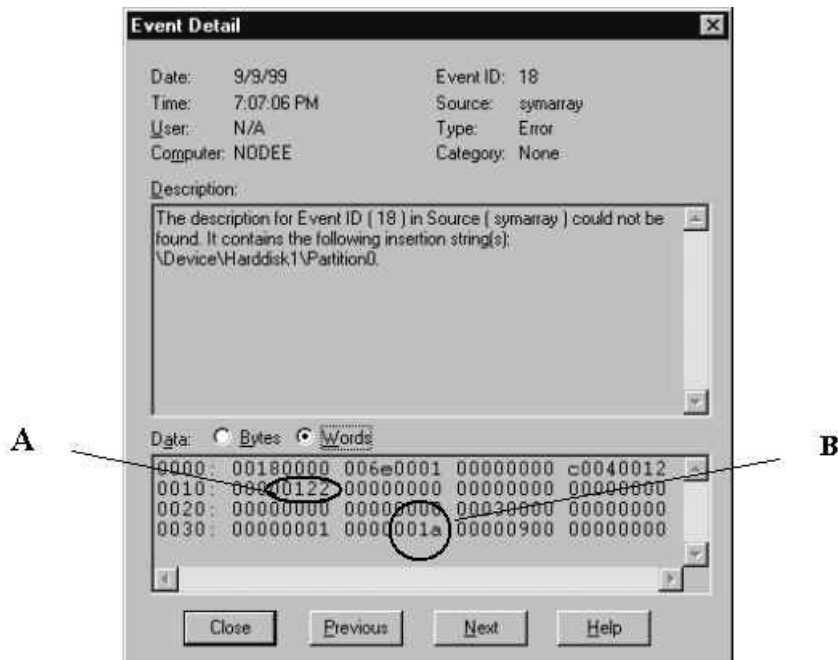

Figure 47. Event detail
2. Select the **Words** radio button to convert the bottom text from bytes to words. See Figure 47.